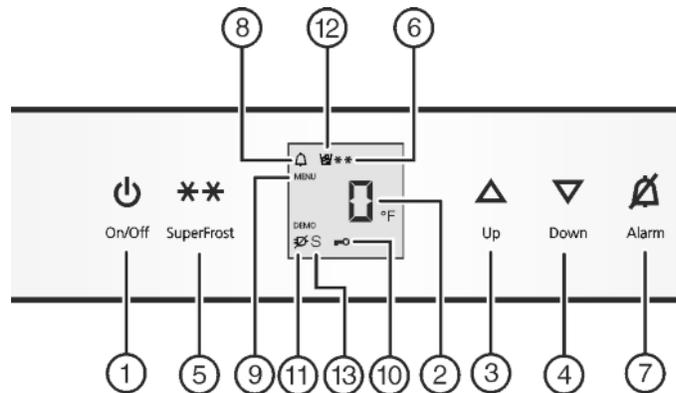

Fig. 2
- ▶ Press On/Off button Fig. 2 (1).
- ▶ Activate setting mode: Press SuperFrost button *Fig. 2 (5)* for about 5 seconds.
- ▷ The Menu symbol *Fig. 2 (9)* lights up.
- ▶ Using Up button *Fig. 2 (3)*/ Down button *Fig. 2 (4)* select °.
- ▶ To confirm: Briefly press SuperFrost button *Fig. 2 (5)*.
- ▶ Using Up button *Fig. 2 (3)*/ Down button *Fig. 2 (4)* select °F or °C.
- ▶ To exit setting mode: Press On/Off button *Fig. 2 (1)*.
- ▶ Activate setting mode: press and hold the SuperFrost button *Fig. 2 (5)* for approximately 5 s.
- ▶ Using the Up button *Fig. 2 (3)* or Down button *Fig. 2 (4)*, select c.
- ▶ Press the SuperFrost button *Fig. 2 (5)* briefly to confirm. When c1 is shown on the display:
- ▶ To switch on the child-proof lock, press the SuperFrost button *Fig. 2 (5)* briefly.
- ▷ The Child safety symbol *Fig. 2 (10)* lights up. c flashes on the display.
- ▶ To switch off the child-proof lock, press the SuperFrost button *Fig. 2 (5)* briefly.
- ▷ The Child safety symbol *Fig. 2 (10)* goes out. c flashes on the display.
- ▶ Deactivate setting mode: press the On/Off button *Fig. 2 (1)*.
- ▶ Press Alarm button *Fig. 2 (7)*.
At the same time, the Alarm symbol *Fig. 2 (8)* will flash.
The audible warning automatically ceases, the Alarm symbol *Fig. 2 (8)* goes out, and the temperature display stops flashing when the temperature is cold enough again.